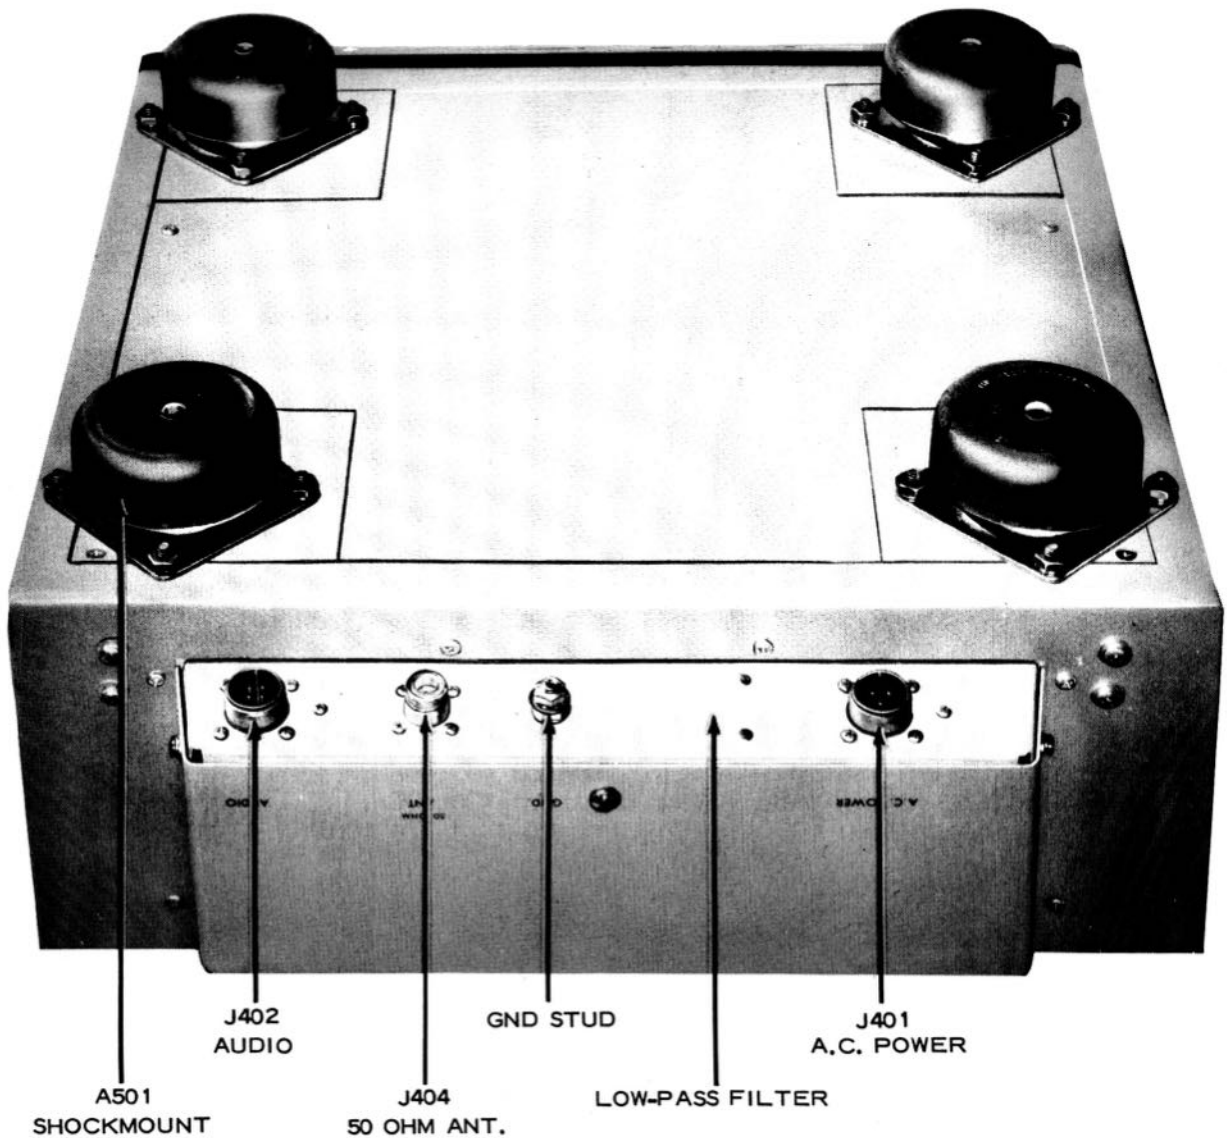

Figure 1-3. Radio Receiver R-482C/URR-35, Rear View (Upside Down) Showing Low-Pass Filter F-304/URR-35
g. LOW-PASS FILTER F-304/URR-35C.—The low-pass filter is shown in figures 1-3 and 7-20. It provides through connections from the receiver proper to the antenna input, and contains r-f noise-filter circuits for audio output and power input. The filter parts are mounted on a base plate which is attached to the rear wall of the receiver cabinet by snap-slide fasteners located on the inside of the cabinet. The filter cover, when attached to the base plate, constitutes an r-f shield. The A.C. POWER input, J401, AUDIO output, J402, and 50 OHM ANT. transmission line input, J404,